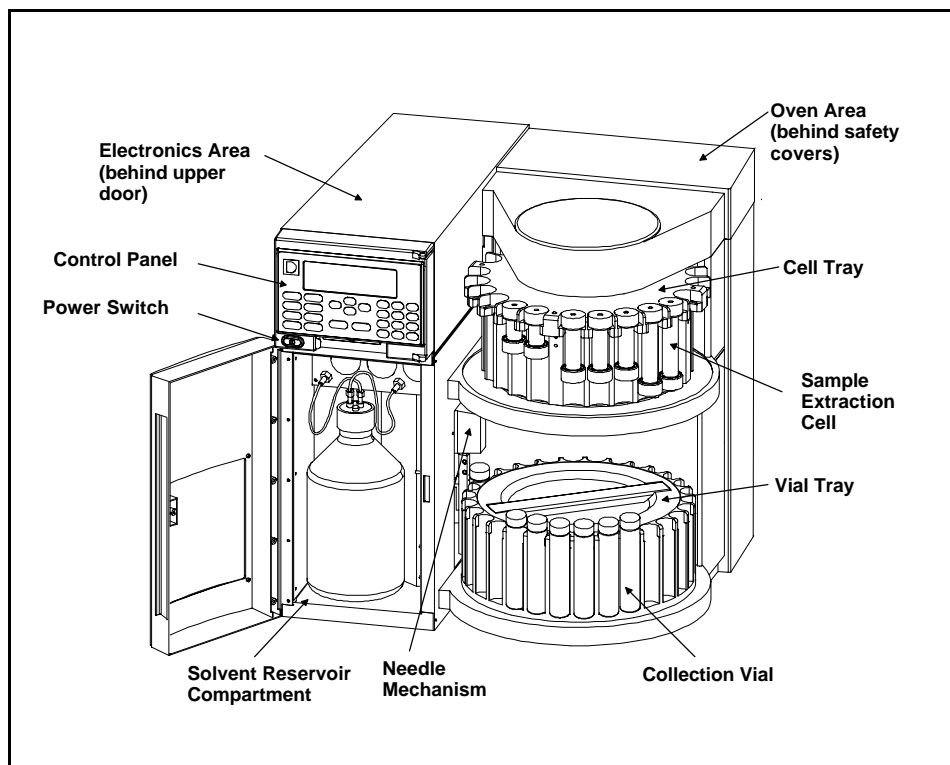
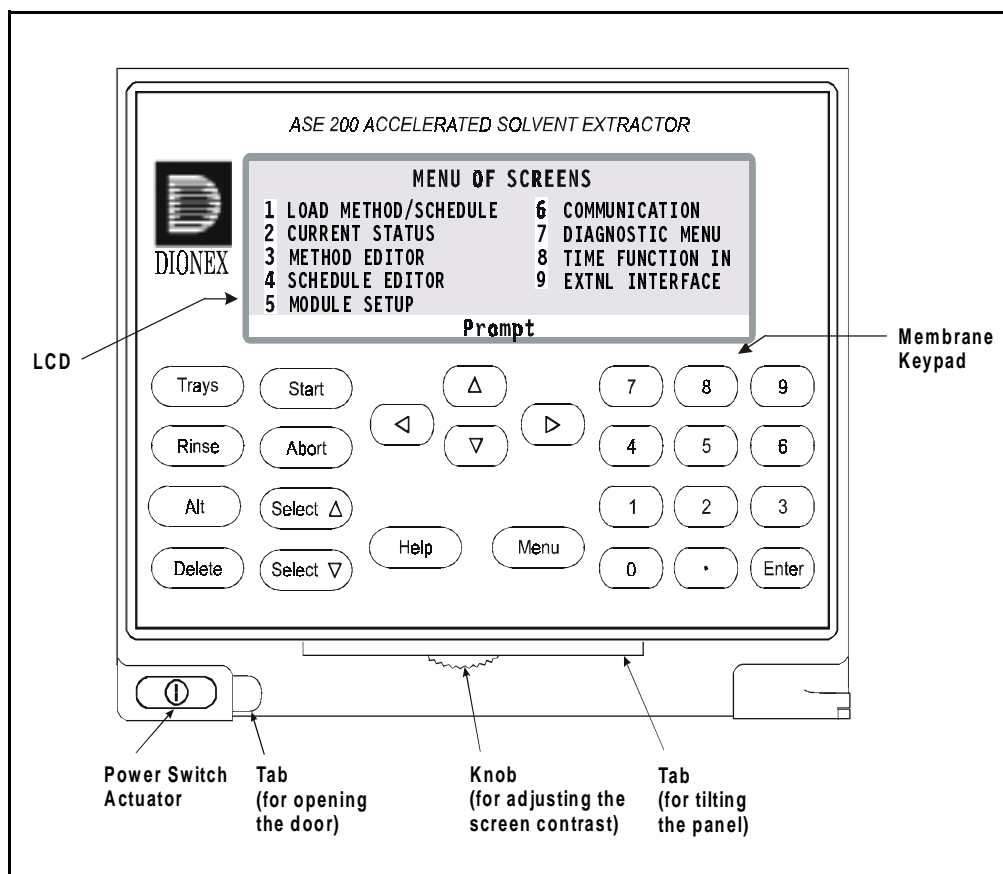
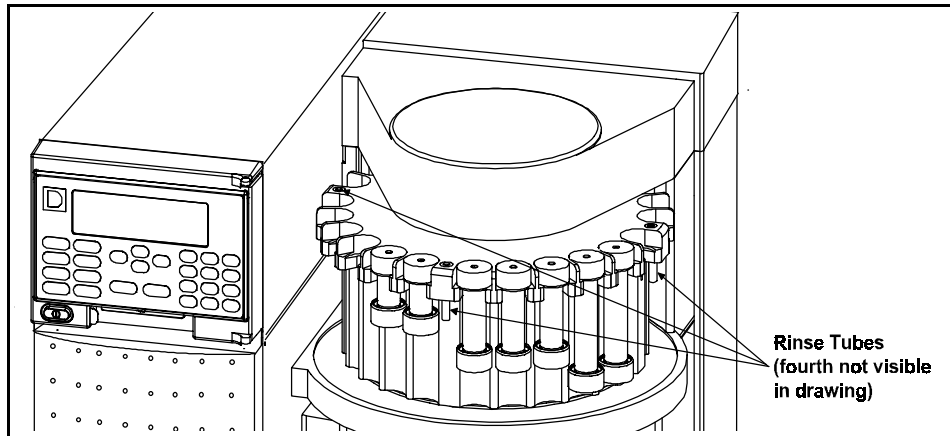

Figure 2-1. ASE 200 Operating Features
Figure 2-2. ASE 200 Control Panel
Figure 2-3. Rinse Tubes
Figure 2-1 illustrates the main operating features of the ASE 200.
The control panel on the upper door of the ASE 200 contains the liquid crystal display (LCD) and the membrane keypad (see Figure 2-2). The upper door provides access to the ASE 200 electronics.
- The screen contrast can be adjusted with the knurled knob in the recess below the keypad (see Figure 2-2).
- The control panel can be tilted to four positions. To tilt the panel, support the upper door of the enclosure at the left side (to prevent it from opening) and lift firmly on the tab in the middle of the recess below the keypad (see Figure 2-2). Push on the tab to return the panel to its vertical position.
Rinse tubes are small-diameter metal tubes that fit into the four rinse positions in the cell tray (see Figure 2-3). During a rinse cycle, the tray rotates to the nearest rinse position that ensures that the heated cells remain behind the safety cover over the oven (see Figure 2-1). Solvent passes directly through the rinse tube during the cycle.
The compartment behind the front lower door (see Figure 2-1) contains the solvent reservoir, waste vial, and pressure gauges.
The ASE 200 electronics area is located behind the upper front door (see Figure 2-1). To open the door, pull on the tab located to the right of the main power actuator (see Figure 2-2).